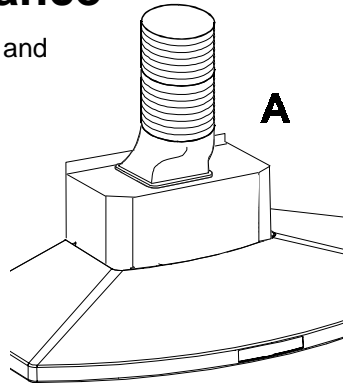

Fig. 1
- In this version fumes are extracted to the outside via a hose connected to the coupling ring **A. Fig. 1.**